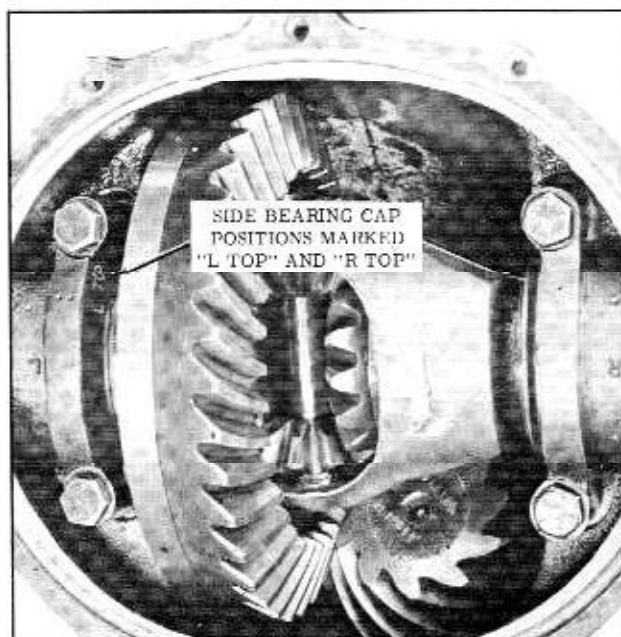

Figure 6-6 Case Assembly
5. Remove four side bearing cap bolts. (Fig. 6-6) Note: caps are marked "R Top" and "L Top".